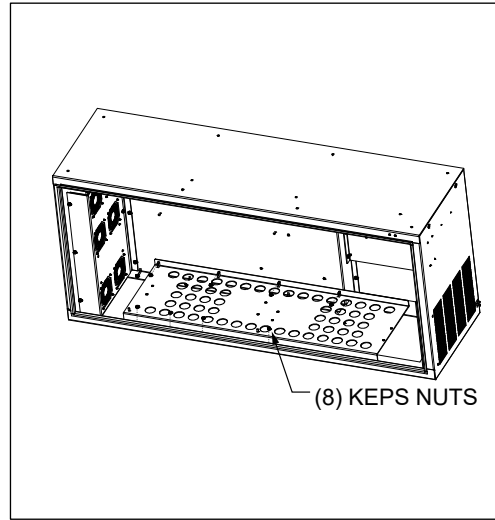

Figure 10 Bottom Panel
10. Install the bottom panel to the bottom of the CUBE using eight Keps nuts (Figure 10).